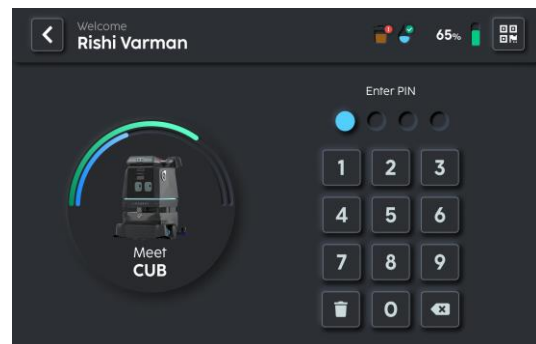

FIGURE 3-16
2. Enter your pin. (Fig. 3-16).